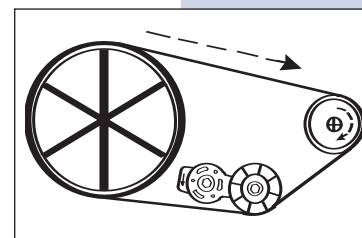

Fig. 1
- Rotary tensioner should always be mounted on the slack side of the belt drive. See Fig. 1.